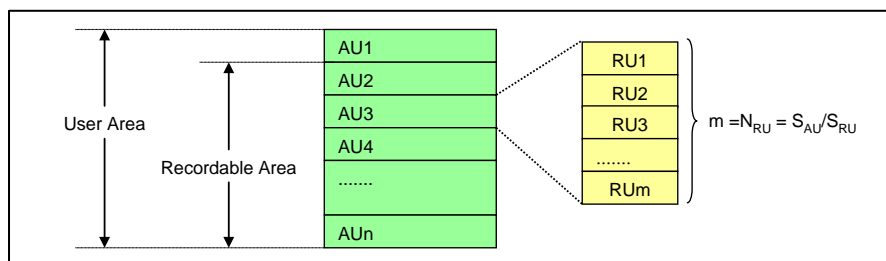

Figure 4-47: Definition of Allocation Unit (AU)
4.13.1.1 Allocation Unit (AU)
The User Area is divided into units called "**Allocation Unit (AU)**" (Refer to Figure 4-47). AU is physical boundary in User Area of a card and is not defined by the file system boundary. Each card has its own fixed **AU Size (S_{AU})** and the maximum AU Size is defined depending on the card's capacity. The host should manage data areas with the unit of AU. If the first AUs in the card contain file system information then they should not be used for real time recording. An AV application should start recording from the first complete AU, to which only user data can be recorded. Note that this specification does not apply to the Protected Area.
4.13.1.2 Recording Unit (RU)
Each AU is divided into units called "Recording Unit (RU)" (Refer to Figure 4-47). The unit of **RU Size (S_{RU})** is 16KByte. The RU Size is a multiple of 16KByte and shall not span across an AU boundary. Larger RU size may improve performance. The condition and requirement of the minimum RU Size is defined by Section 4.13.1.8.1. **The number of RUs in an AU (N_{RU})** is calculated from S_{AU}/S_{RU}.